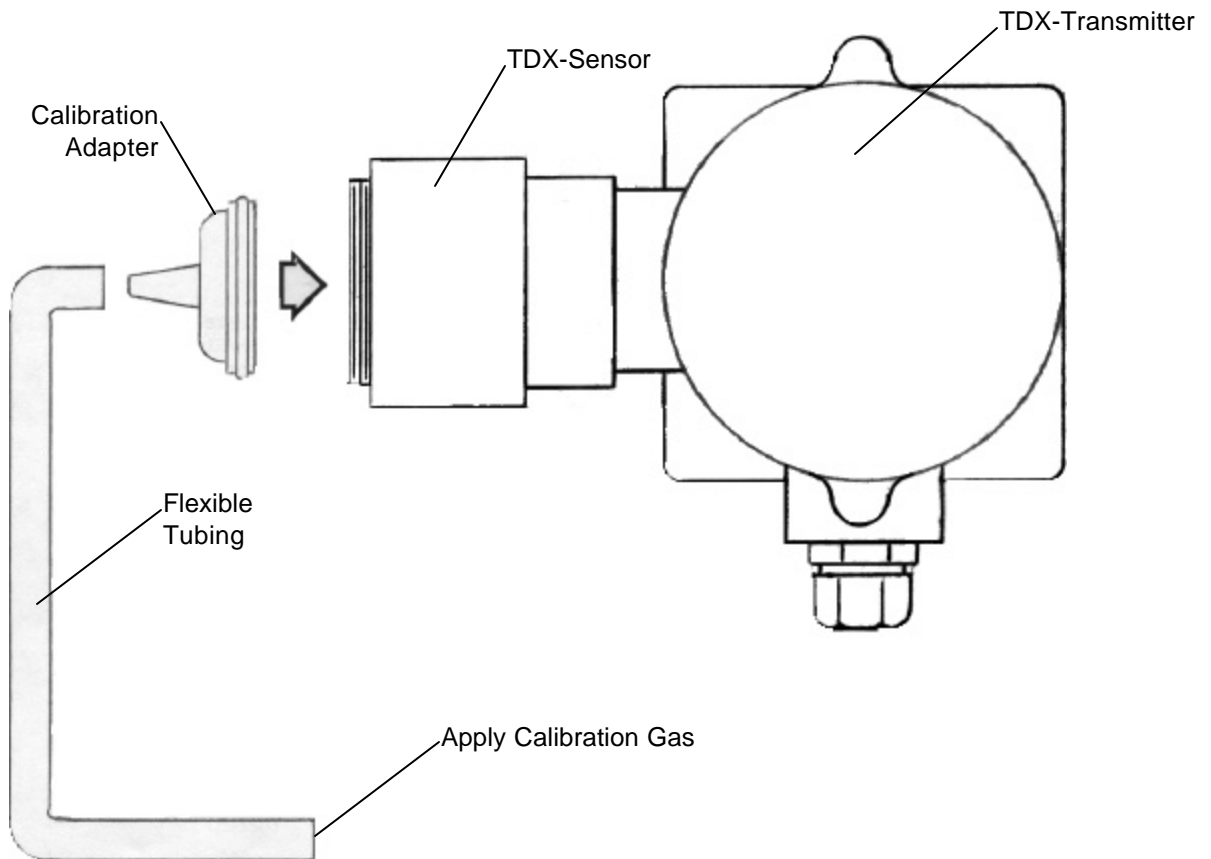

Figure 3: Calibration Diagram
1. Apply the test gas of known concentration to the sensor using the calibration adapter provided (See Figure 3.).